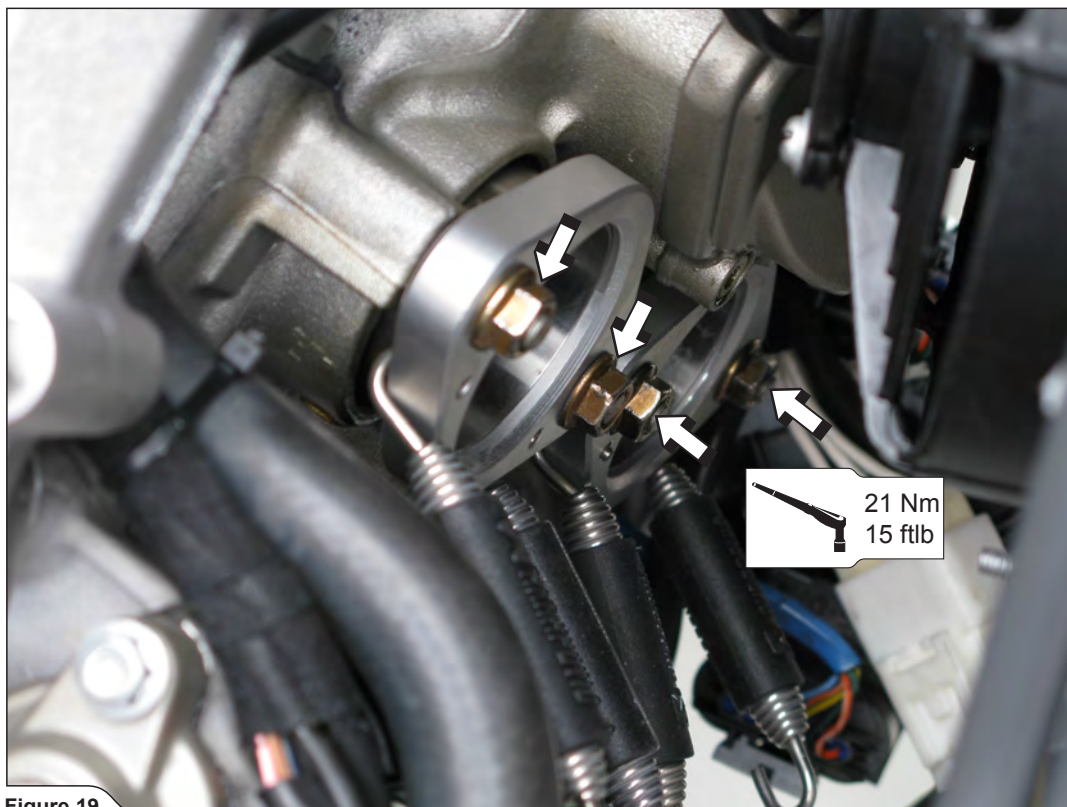

Figure 19
2. Tighten the nuts to a specified torque (**Figure 19, 20**).